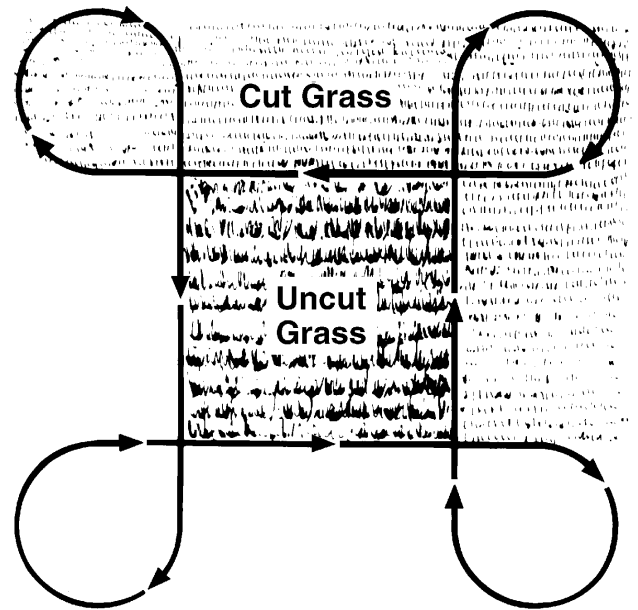

Figure 4-3
4. Follow the mowing pattern shown in Figure 4-3.